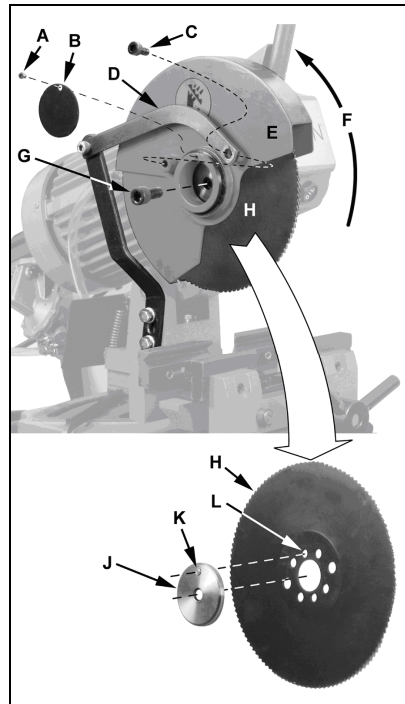

Fig 5
Remove the screw (A, Fig 5) and cover plate (B).